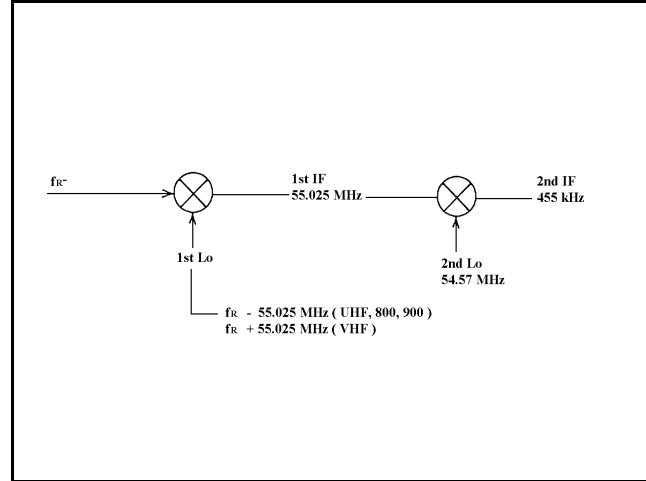
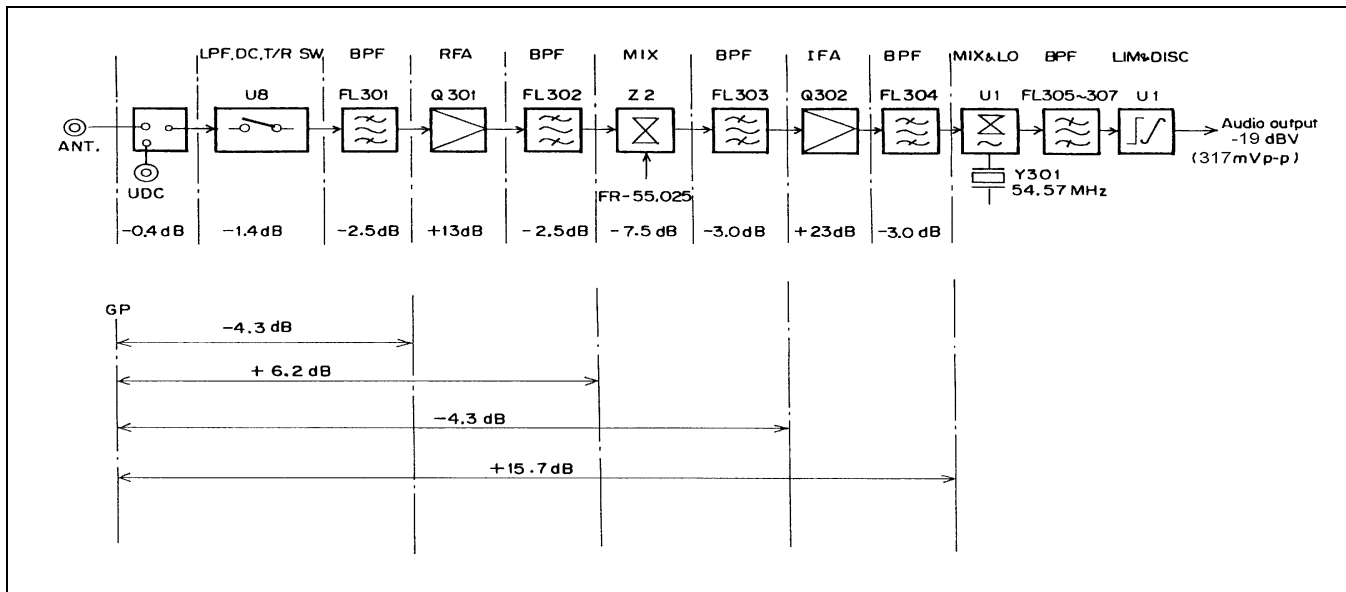

Figure 11 - Frequency Relationship Diagram
Figure 12 - Typical Level Diagram
- a. Level Diagram: A Frequency Relationship Diagram is shown in Figure 11 and a Typical Level Diagram is shown in Figure 12.
- (1) C318 is provided for the adjustment of the second local oscillator.
- (2) When the desired channel frequency with standard modulation is applied to the antenna terminal, adjust C323 for maximum output at RX Audio.